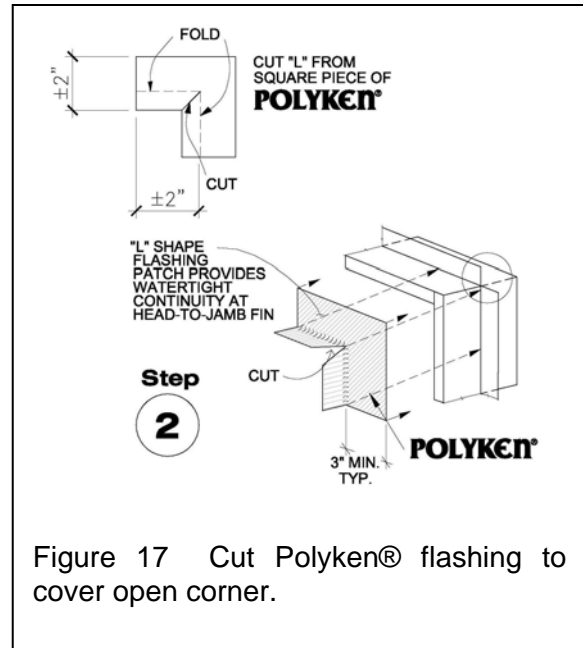

Figure 17 Cut Polyken® flashing to cover open corner.
Step 2. Cut an “L” from a piece of Polyken® as shown in Figure 17.